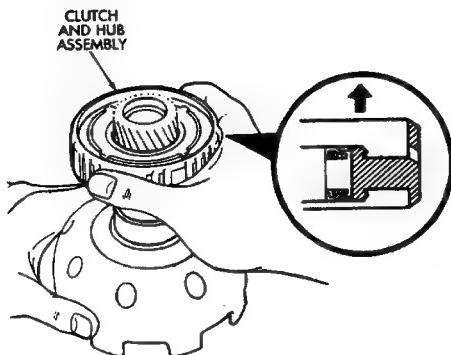

Fig. 9 Installing Clutch And Hub Assembly
(2) Install sun gear in drum and install remaining snap ring.
(3) Coat replacement seal rings with petroleum jelly and install them on sun gear. Be sure seal ring ends are interlocked.
(4) Install thrust washer. Be sure washer tabs are seated in drum slots.
(5) Install one-way clutch/second brake hub assembly on sun gear. Deep side of hub flange faces upward (Fig. 9).